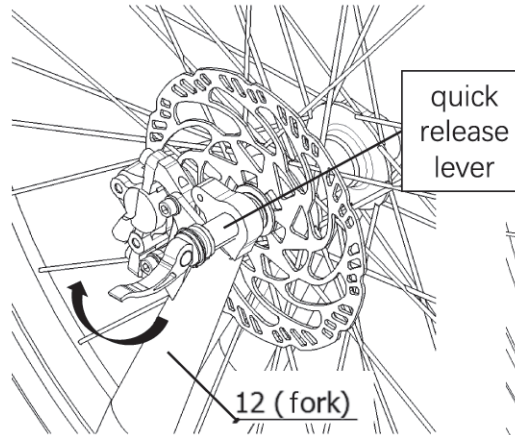

Figure 45-1.
d. Insert the quick release lever from the disc side as far as you can. You may need to slightly adjust the front wheel so that the quick release lever can pass smoothly. Screw clockwise it in until it feels tight, as shown in Figure 45-1.